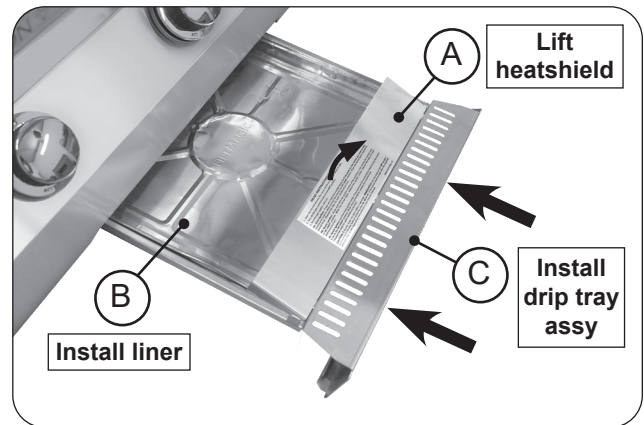
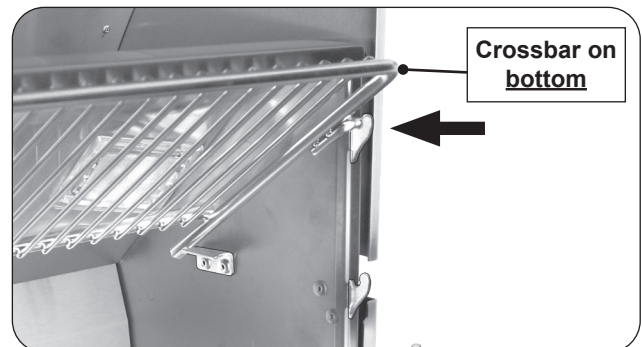

Fig. 27-1 Install drip tray
Fig. 27-4 Place warming rack in storage position
1. Lift the heatshield slightly, then place a liner into the drip tray (Fig. 27-1, A and B).
2. Then fully insert the drip tray assembly into the bottom front opening of the control panel (Fig. 27-1, C).
- Use the top hooks for storage (see Fig. 27-1 and Fig. 27-4).